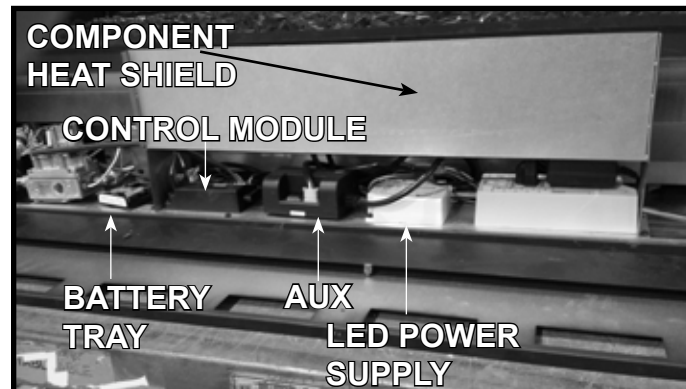
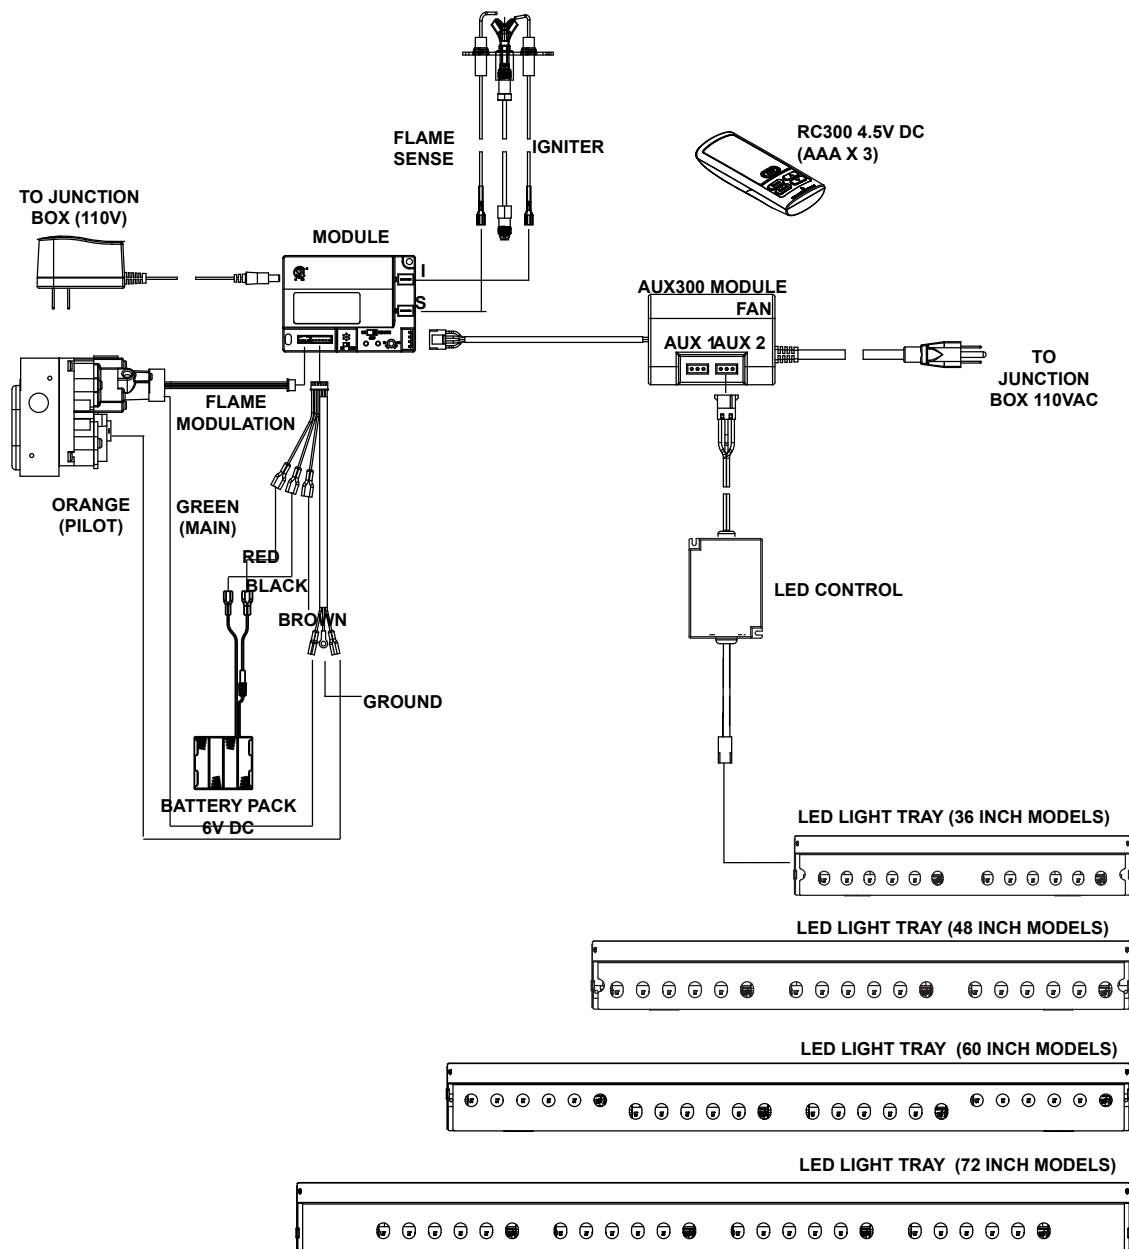

Figure 4. Electrical Components in Position
Figure 5. LED Wiring Diagram
- Refer to Figure 4 and Figure 5 for the following steps: